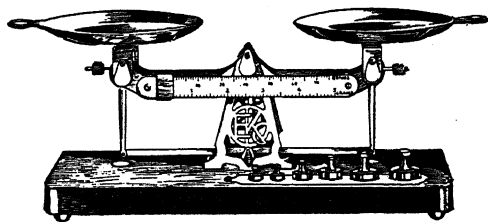

FIG. 55. EASTMAN STUDIO SCALE
*Laboratory Scale.*—Use an accurate scale with beam graduated in both grams and grains, up to 70 grains (see Fig. 55). The scale